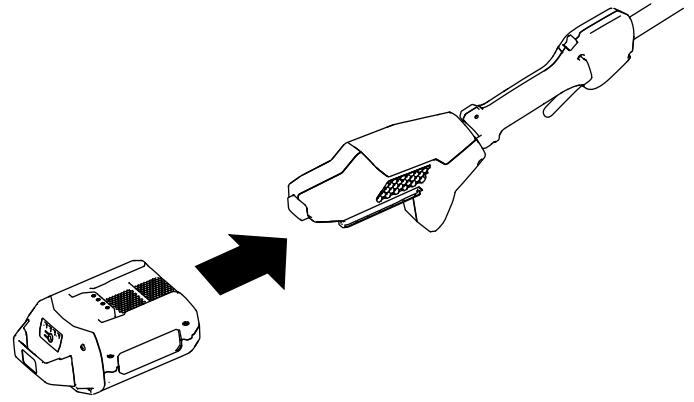

**Figure 9**
1. Ensure that the vents on the pole saw are free from dust and debris (Figure 9).